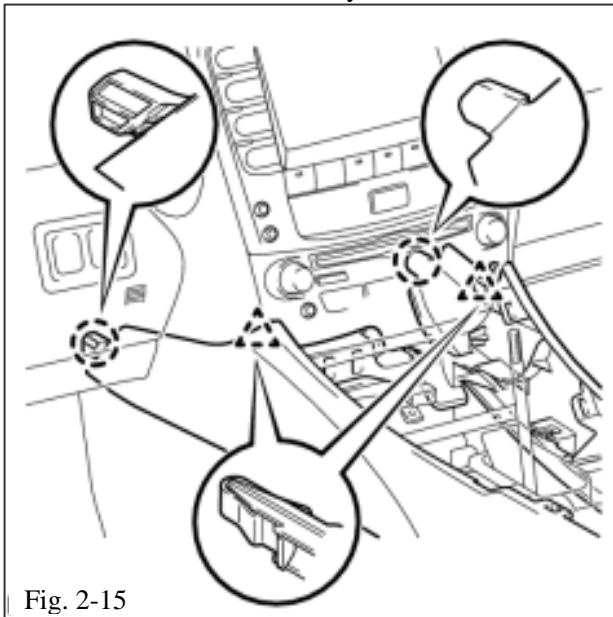

Fig. 2-15
- (7) Disengage the two (2) claws and two (2) clips, and then remove the console box. (Fig. 2-15)